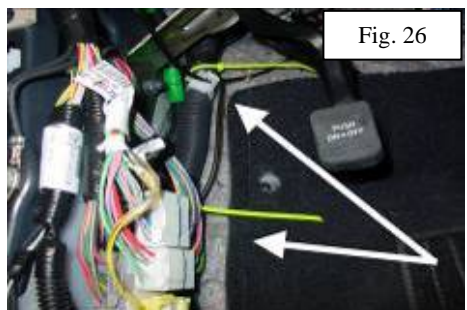

Fig. 26
13. Route power harness along kick panel area, following existing vehicle harness, spaced out approximately every 6" (150mm), secure harness using 3 cable ties as shown (Fig. 26 & 27).